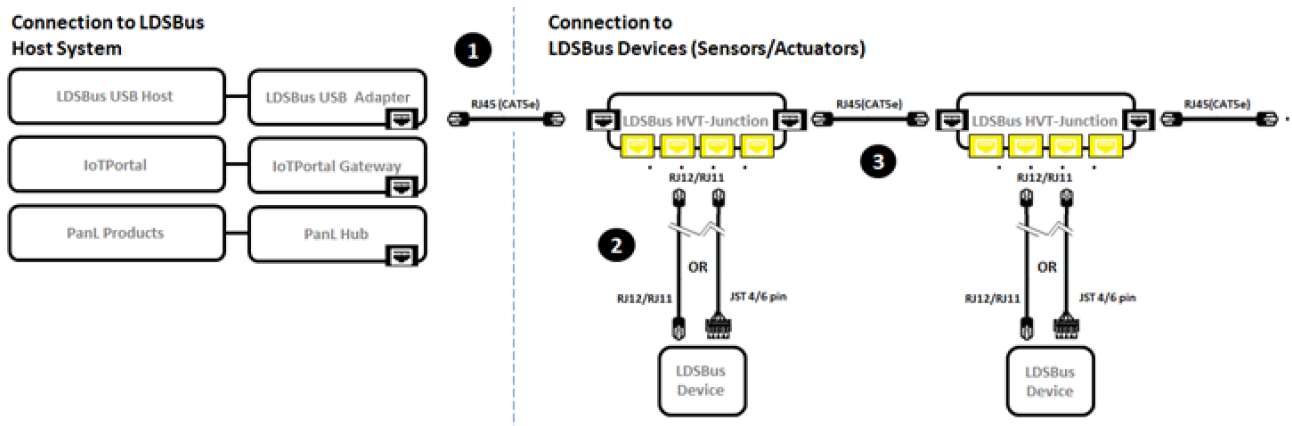

Figure 6 - LDSBus Multi Sensor to LDSBus - Connection Diagram
Figure 6 illustrates the connection of the LDSBus Multi Sensor (LDSBus Device) to the LDS Bus. For more detailed information on device installation, setup, and application, please visit <https://brtsys.com/resources>.
2. Connect the configured LDSBus Multi Sensor to the LDSBus HVT-Junction as shown in Figure 6.
3. If there is more than one LDSBus HVT-Junction, chain them together as shown in Figure 6.